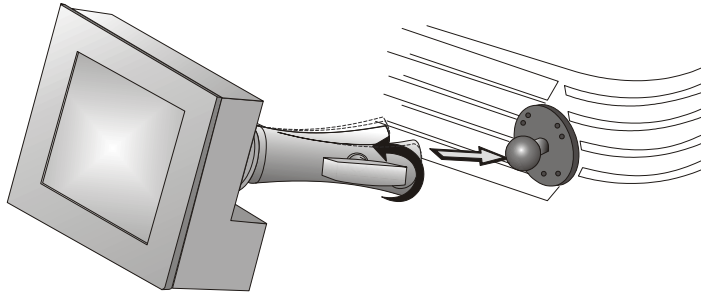

Figure 2-3 Loosen Mounting Arm
1. Loosen the mounting arm enough for the end to fit over the ball joint located on the rear panel of the projector (**Figure 2-3**).